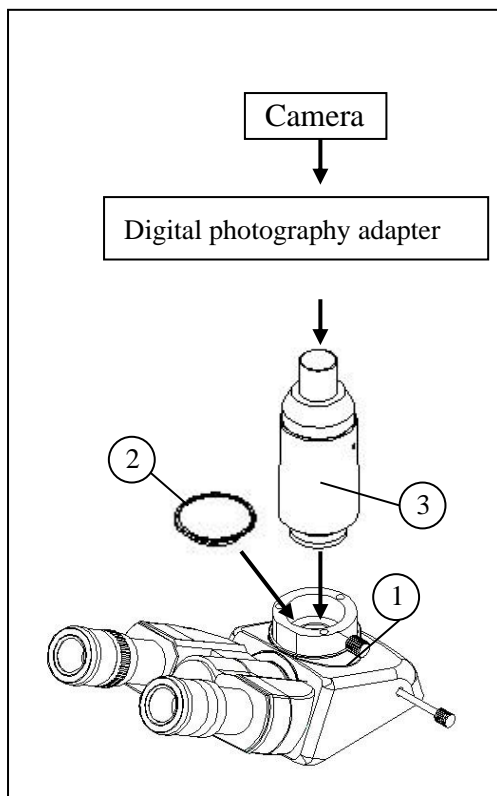

Fig.32
3.4.2 Installing the Photography Set (Fig.32)